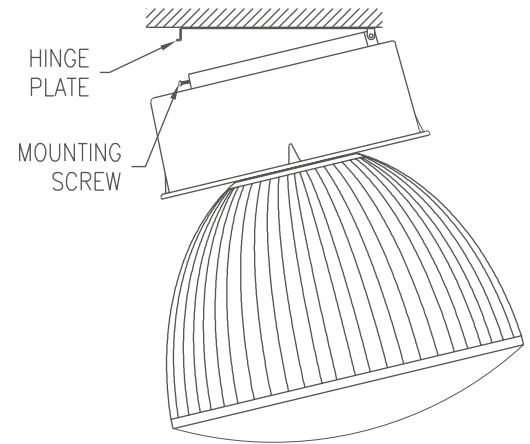

Figure 1
- Loosen (do not remove) front mounting screw securing hinge plate. See Figure 1. **Note: If application requires Wet Location Listing, RTV (supplied by others) must be applied between luminaire mounting plate and ceiling/junction box.**
- Swing plate up and determine which keyholes are required for junction box (supplied by others). See Figure 1.